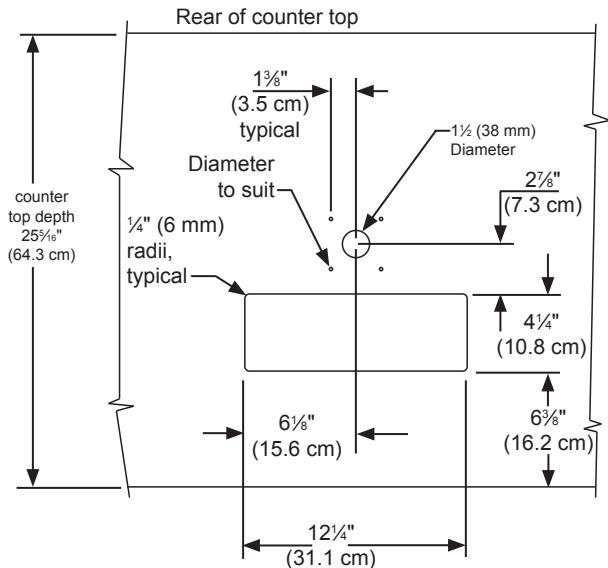

Figure 39
The cutout dimensions shown in Figure 39 are based on a $25\frac{5}{16}$ " (64.3 cm) deep counter top. Your counter top may be different than this and require other front to back dimensioning. Refer to the product dimensions on pages 6 and 7 when determining the required dimensions.
4. If you are installing your keg refrigerator under a counter you will need to drill 5 holes in the counter top to mount the tower. The first hole is a $1\frac{1}{2}$ " diameter hole located at the center of the tower for the beer line, locate approximately $13\frac{1}{2}$ " (34.3 cm) from the front edge of the counter top (based on a counter top depth of $25\frac{5}{16}$ "). Next drill the 4 tower mounting holes per the dimensions in Figure 39. The hole diameter is dependent on the counter top material and if screw anchors are required. The screws supplied are in the literature pack and are a #10 x 1" type AB stainless steel screw. Mark and cut the rectangular cutout for the drain sump. After the holes are drilled and the keg refrigerator is in place under the counter top feed the beer line through the tower gasket, the $1\frac{1}{2}$ " hole in the counter top and the hole in the top of the keg refrigerator. Mount the tower to the counter top with the 4 screws provided. Place the counter top drain sump, from the literature pack, in the rectangular hole with the radius cutout to the rear around the tower and place the grate in the sump.